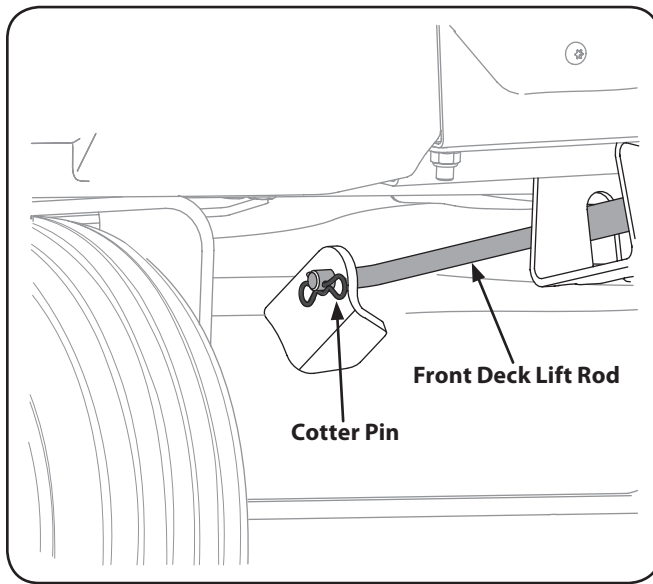

Figure 7-6
6. Pull the cotter pin out of the front deck lift rod securing it to the deck. See Figure 7-6. Slide the deck lift rod out of the front hanger bracket.
6. Reinstall the front deck lift rod and secure in place with the cotter pin. Refer to Figure 7-6.